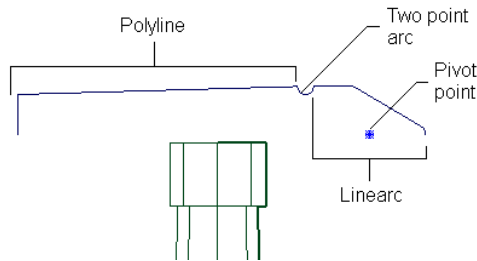

Figure 3-91 Profile of the central part
1. Choose the **Polyline** tool from the **Keypoint Curve Toolbox** and create a polyline, as shown in Figure 3-91.
2. Choose the **Arc (two point)** tool from the **Keypoint Curve Toolbox** and create an arc, refer to Figure 3-91. Make sure that the start point of the arc snaps to the endpoint of the polyline.
3. Next, choose the **Line-arc** tool from the **Keypoint Curve Toolbox** and create a linearc, refer to Figure 3-91. Make sure that the start point of the line-arc snaps to the endpoint of the arc.
7. Drag the pivot point to the desired location, as shown in Figure 3-91.